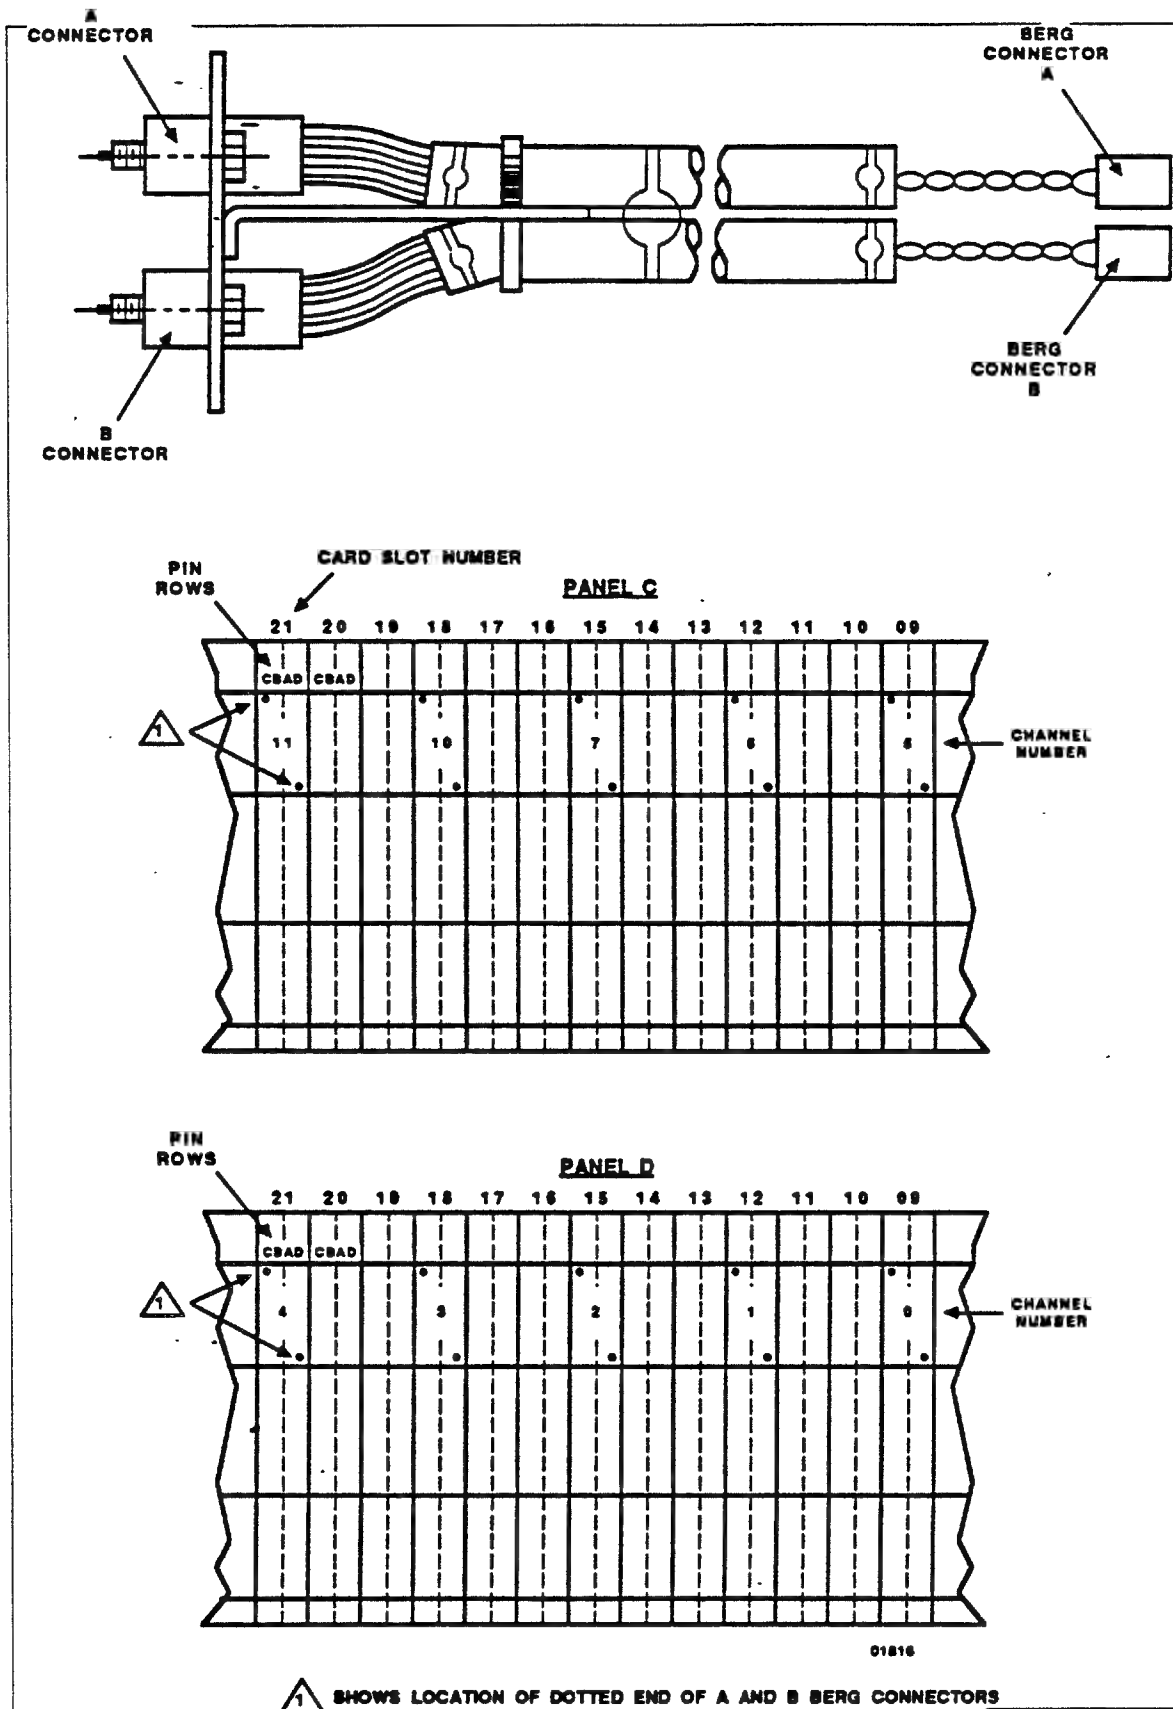

Figure 7-4. 170 Channel Berg Connector and Backpanel Pin Location
- ___ b. Plug A Berg connector on to backpanel pins row AD of channel location determined by figure 7-4. Top of connector plugs on to pin 9.